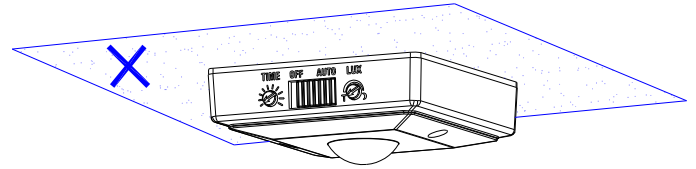

FIGURE 1
- This unit cannot be installed on the ceiling. (FIGURE 1)